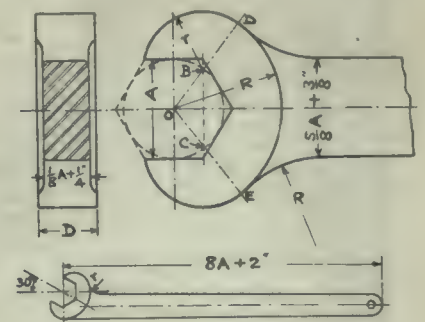

Fig. 3.
Fig. 3 shows good proportions for an ordinary spanner. The thickness and breadth of the shank are shown expressed in terms of the width of the nut A; but these are not necessarily rigidly adhered to. For instance, if A is 1 1-16 inch, we will find that $\frac{1}{2}$ A plus $\frac{1}{8}$ inch, works out to about 1 1-32 inch. This in actual practice would be made 1 inch or 1 1-16 inches. The thickness of the head of the spanner is usually made equal to D, the diameter of the bolt.
C. Join the centre of the nut O to each of the points B, C, and continue the lines to D and E. Set the needle point of the compass at B, and the pencil point at the top outer corner of the nut; this radius is shown as r in figure 3. With B as centre and r as radius, describe an arc from the top outer corner of the nut, as far as the line O B D—the point D being where the two lines intersect. Repeat this operation from C as a centre.